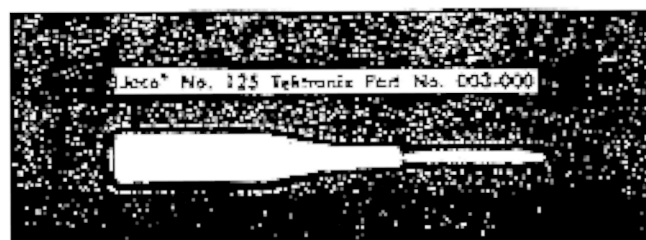

Fig. 5-1. Tool required for calibrating the Type 570 Oscilloscope.
4. Oscilloscope, Tektronix Type 503 or 504. If a Type 503 or 504 Oscilloscope is not available, it will be necessary to substitute an oscilloscope with the following specifications: (1) calibrated vertical deflection factors from .01 to 10 volts per division and (2) bandwidth of dc to 500 kilocycles.
8. Alignment tool. See figure 5-1.